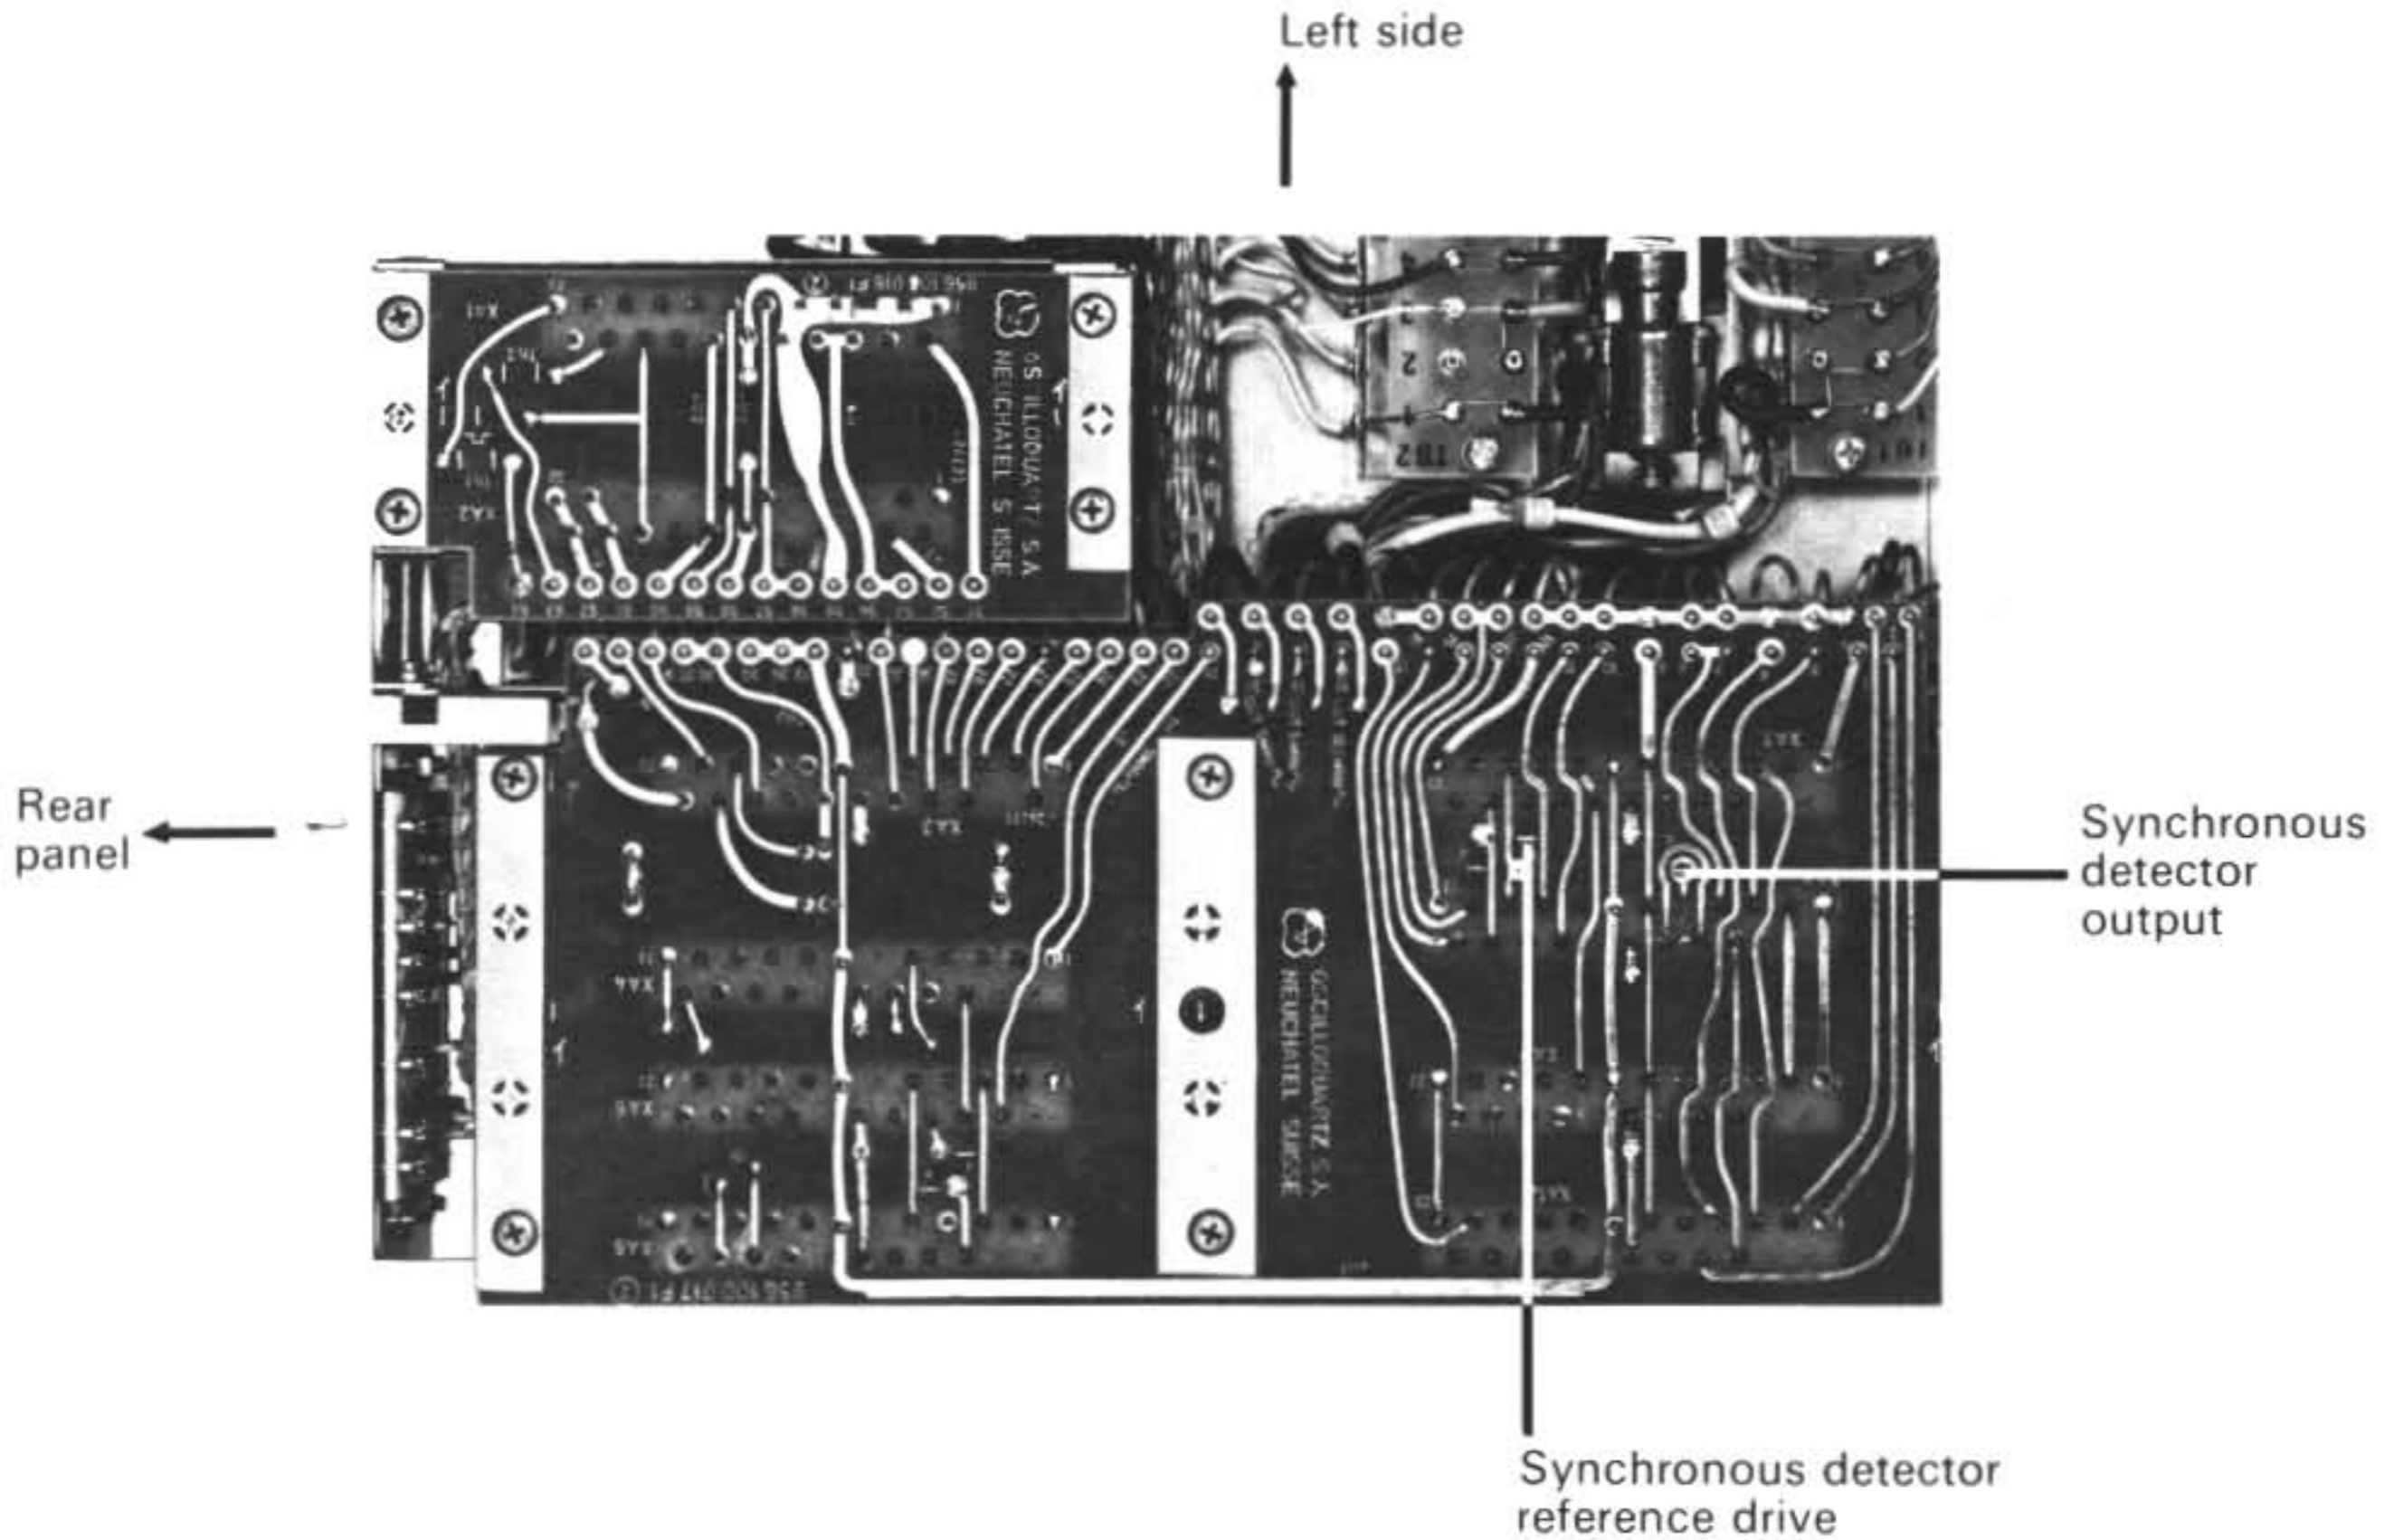

Fig.19 Cesium Frequency Standard, Model 3200 – Circuit cards connecting board (bottom side)
b) Connect an oscilloscope to the synchronous detector output and its synchronizing input to the synchronous detector reference drive (fig. 19) with high impedance probes. (Scale setting of 2 V/cm and 2 ms/cm.)